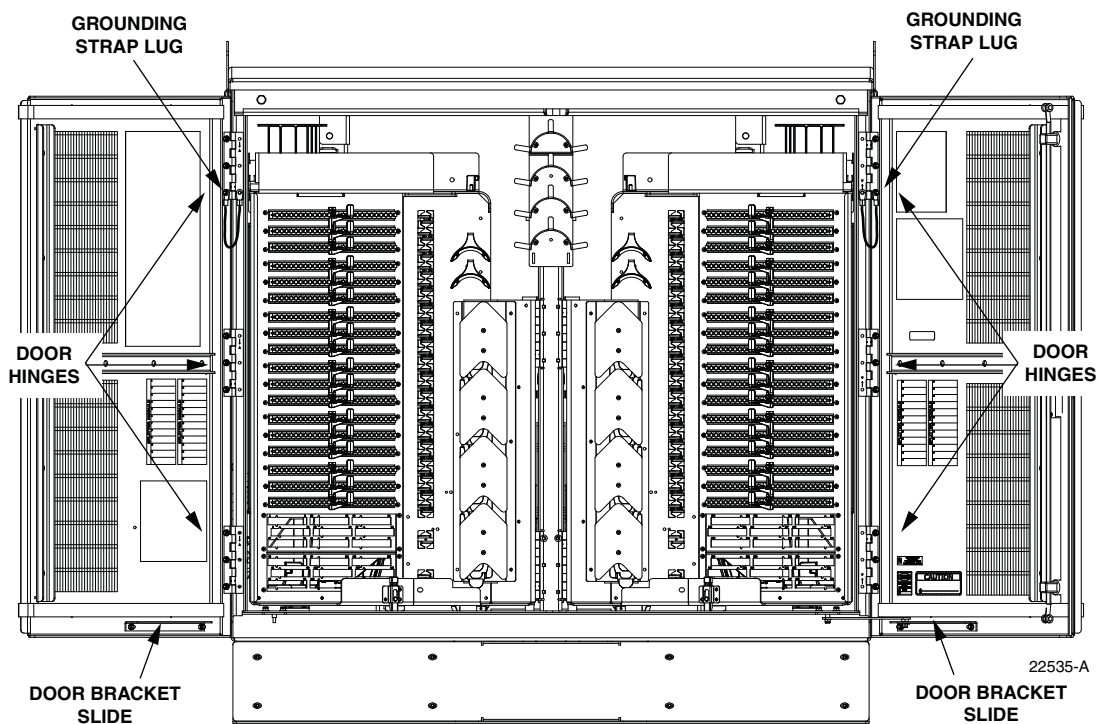

Figure 28. Door Replacement
1. Open both cabinet doors and lock them in the open position as shown in Figure 28.
- ▶ **Note:** Be sure to re-secure the grounding strap lug (see Figure 28) to the door when securing the hinges to the door.